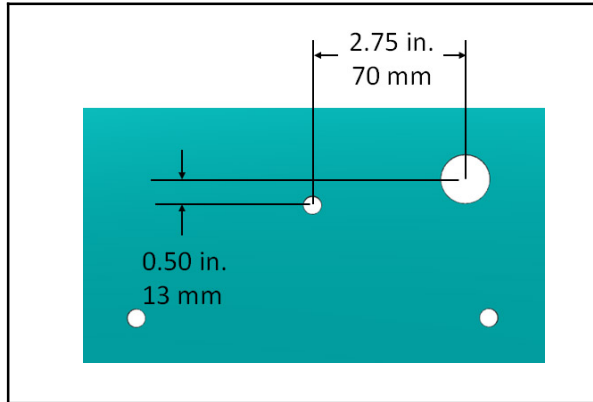

FIG. 4 - M20/T20/M30
3. Measure and mark a location for the harness routing hole onto the front shroud. (Fig. 4)
4. Drill a 0.906 in. (23 mm) hole for harness routing completely through the front shroud. **Do Not** drill into any parts/components located behind the front shroud. (Fig. 4)